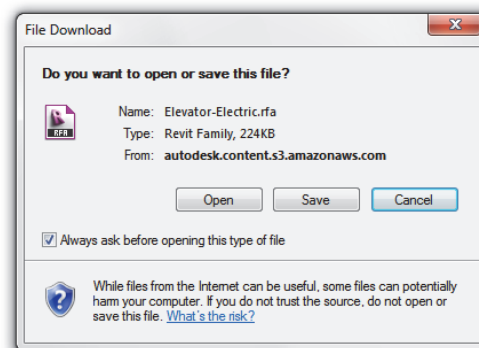

FIGURE 3-4.4 Web browser prompt
8. Select **Save** (Figure 3-4.4).